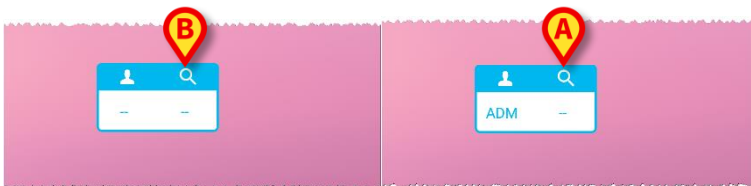
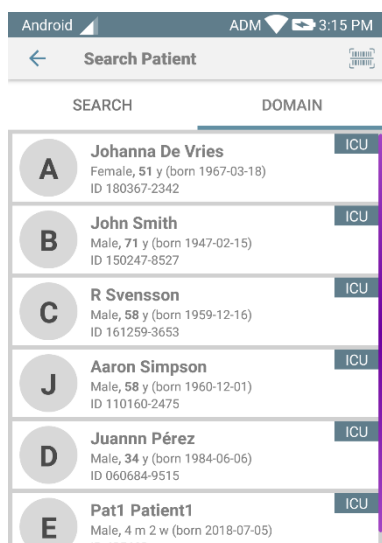

Fig 208
Fig 209
- Touch the icon in Fig 208 **A** to access the Patient Search & Selection functionality (Fig 209).
Such a feature is accessible only if the user is logged in. If the user is not logged in and the icon in Fig 208 **B** is pressed, then the authentication window is moreover displayed.